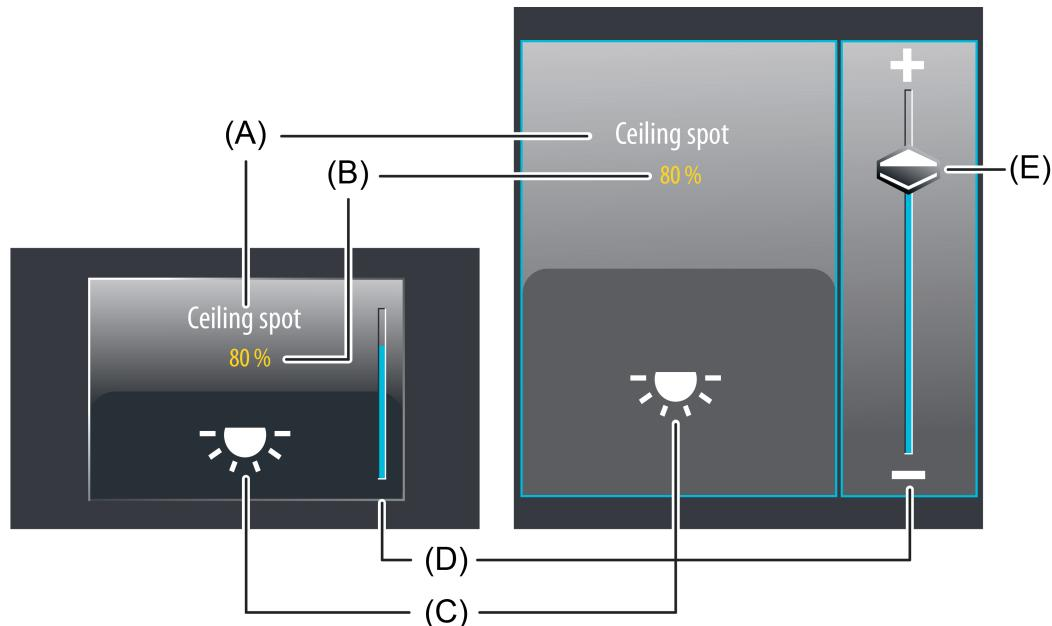

Figure 34: Example of an operating and display element of the function "Value transmitter adjustment function" with a data format "1-byte 5.001...5.004"
In the selection operation, a slider (E) is available in addition to the sensor surfaces + or - for discrete value presetting (figure 34). It is possible to specify values directly with graphic support using the slider. For this purpose, the slider can be set by finger pressure or continuously moved. To set the slider, you must touch the slider area at the required value gradation with your finger. The slider then jumps immediately to the required position. At the same time, the device transmits the value specified thus as a setting to the bus.
The display area contains different display elements (figure 34) that are influenced by parameters. A name can be assigned to each KNX function in the configuration software (A). This text name is centred in the display element for display whereby controllable KNX functions are identified for the user (e.g. "ceiling spot", "external brightness"). In addition, a status value (B) can be displayed below the name, which either displays values in plain text ("0...255", "0...100%", "0...65535 lux") depending on the object value of the value feedback of an actuator or alternatively directly depending on the preset value of the operating element. The data format of this status value display is determined by the data type set in the configuration software and by the parameterised display format. After a device reset, the display shows "---" (supplemented by the unit) until a feedback object value of the status text is received or a value is specified. Similarly to the status value, a symbol (C) can be displayed in the lower display area. The icon displayed is defined in the configuration software. The character of the status icon changes with the dynamic icons depending on the feedback value thereby enabling the value status (e.g. brightness value or blind/shutter position) of the activated KNX function to be read clearly. Other icons not identified as dynamic behave statically and do not change their character depending on the received or preset values.